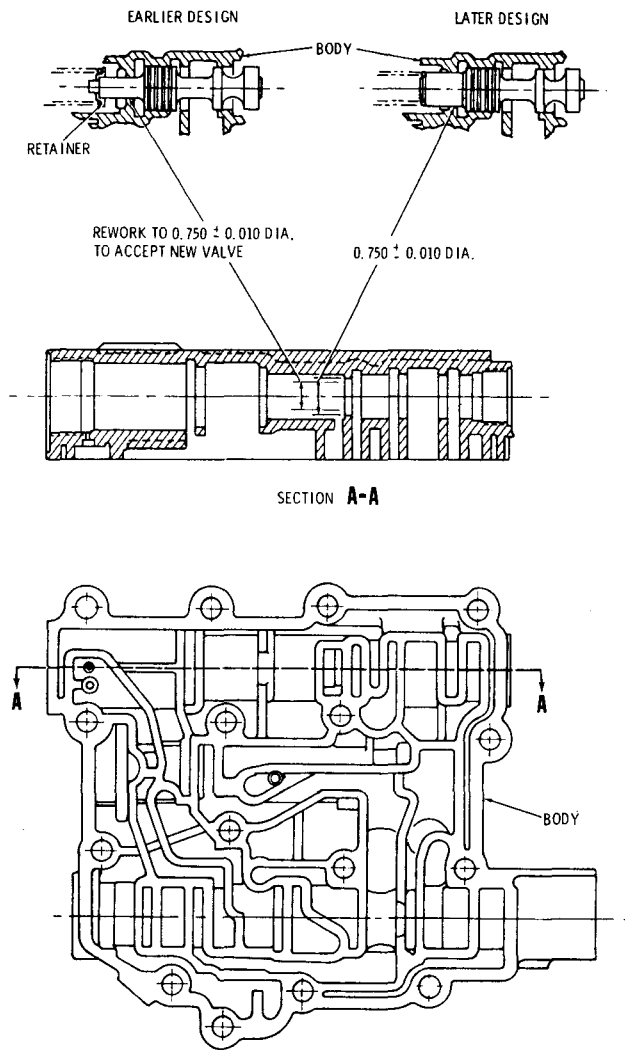

Fig. 6-5. Control valve body rework area (earlier models with new valve)
(2) Refer to figure 6-5. If main-pressure regulator valve 8 (B, foldout 7) is of the earlier design, spring retainer 13 must be used. If valve 8 is of the later design, no spring retainer is used. If a later design replacement valve is to be used in an earlier valve body, rework is required (fig. 6-5).
(3) If ball retainer 11 and ball 10 were removed, install the ball and press the retainer, flat end first, flush to 0.010 inch (0.25 mm) below the surface of control valve body 9.
(4) If required, install retainer 13, convex side first, onto one end of main